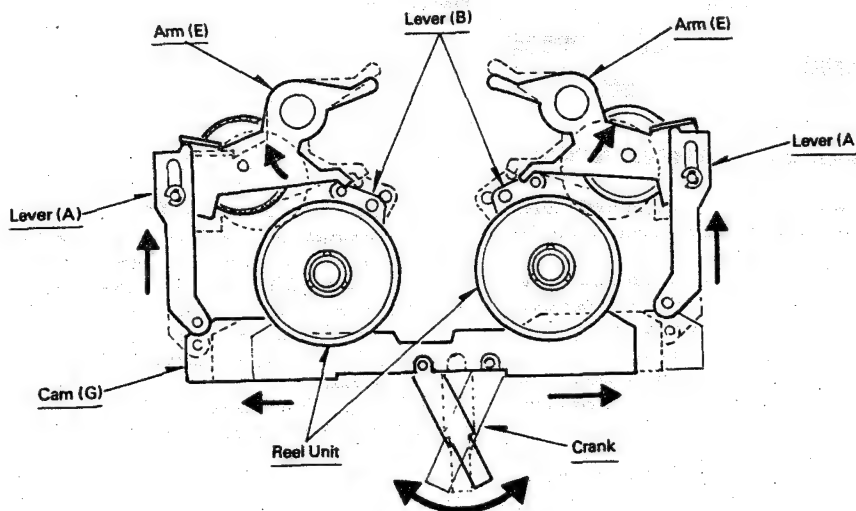

Fig. 19
1. The left-right movement of Crank causes right-left movements of Cam (G). Lever (A) is pushed by the tapered sections at both ends of the upper side of Cam (G) (Fig. 19).
2. Lever (A) causes Arm (E) to rotate and separate the idle gear on one side from the Reel Units, simultaneously making Lever (B) rotate and disengage Claws (A) and (B), which are designed to prevent the Reel Units from reversing (Fig. 19).